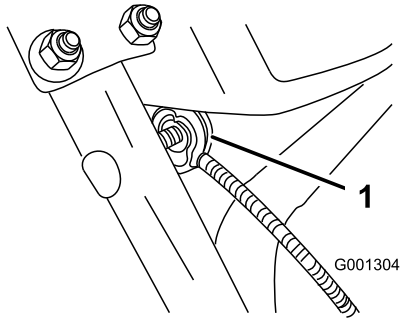

Figure 7
3. Remove the nut and washer from the handle, attach the cable clamp on the cable to the handle, install the washer and the nut, and hand tighten the nut (Figure 7).